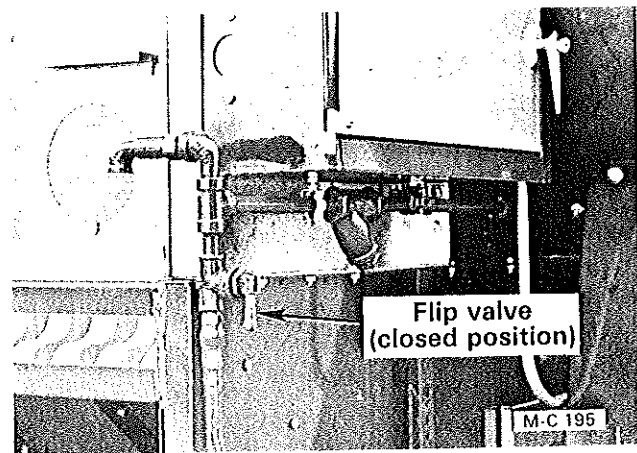

Figure 33
- C. **LP Gas** - Open the supply valve at the tank and open (lift up) the liquid line flip valve, see Figure 33.